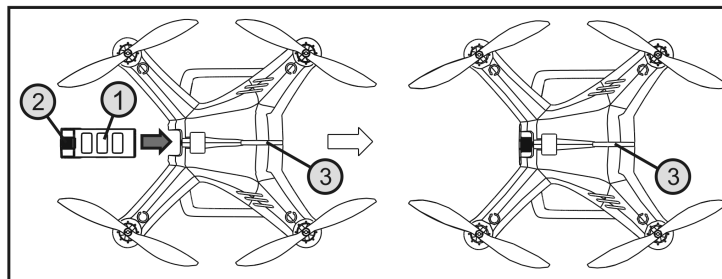

Figure 7
Push the deactivated flight battery (see figure 7, item 1) into the quadrocopter with the charge connection contacts first. Slightly push the grooved surface of the battery lock (see figure 7, item 2) so that the locking tab can latch.